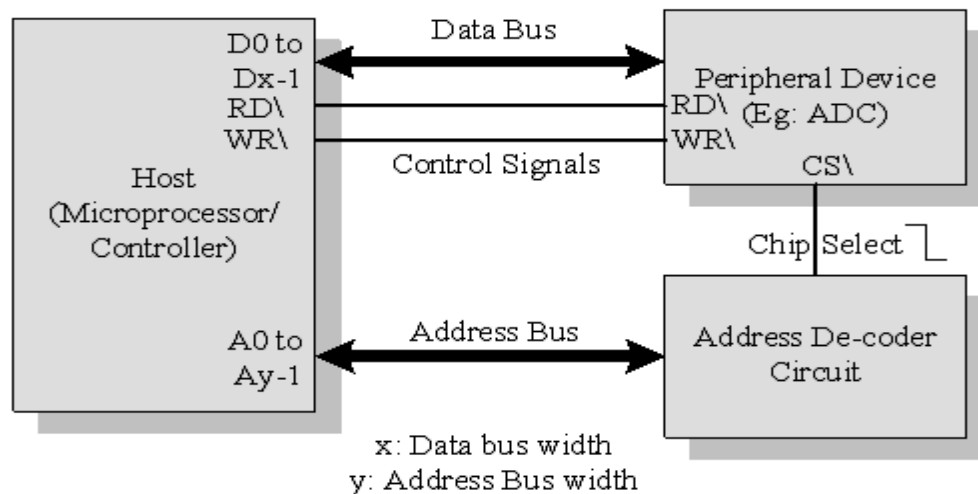

Fig. 3.10: Parallel Interface Bus
- Figure 3.10 illustrates the interfacing of devices through parallel interface.